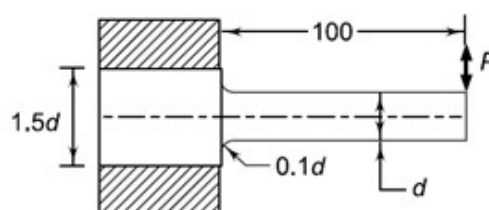

Fig.4
5. A cantilever beam made of steel Fe 540 ($S_{ut} = 540$ N/mm² and $S_{yt} = 320$ N/mm²) and subjected to an alternating load (P) of ± 7 kN as shown in Fig.4. The beam is machined, and the reliability is 90%. The factor of safety is 2 and the notch sensitivity factor is 0.9. Calculate